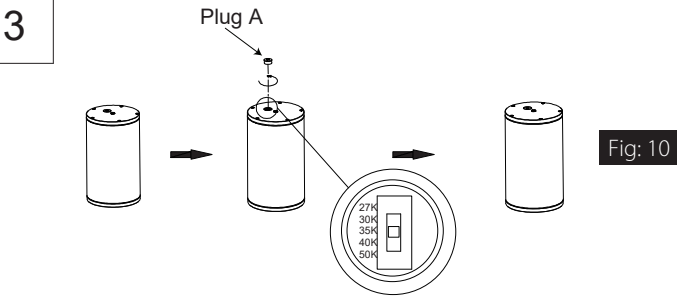

Fig: 10
3. Unscrew Plug A to adjust the CCT (Default-3000K). When done, screw plug A back in. (Fig. 10)